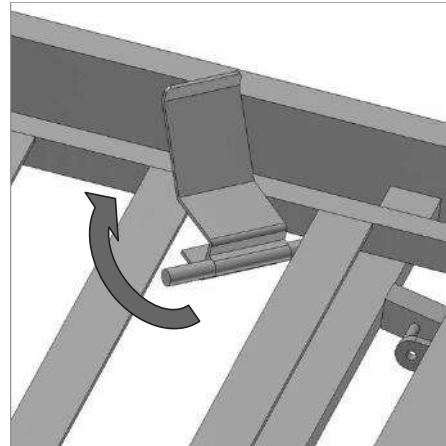
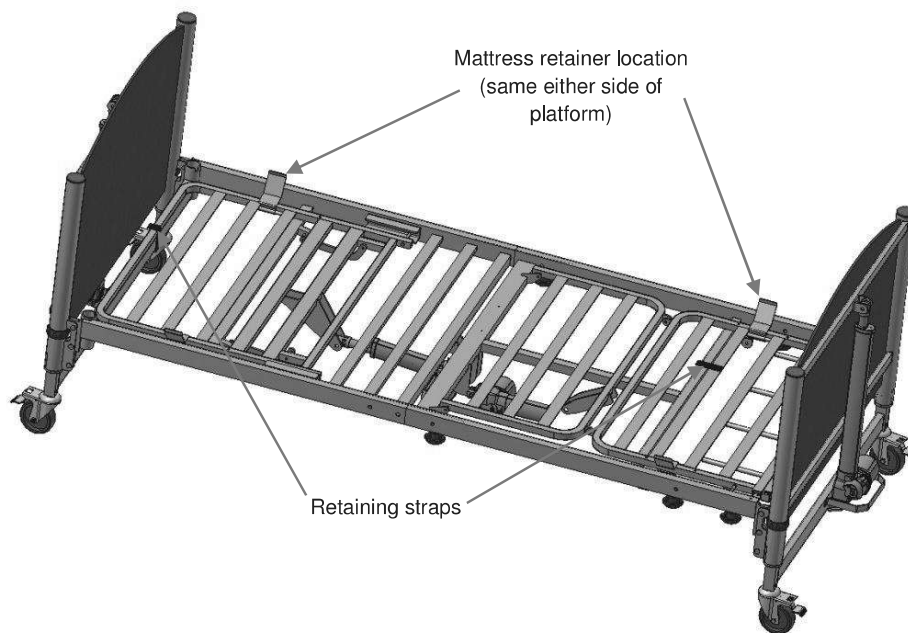

Figure 8: mattress retainer
Figure 9: Location of mattress retaining clips and retaining straps
18. Attach the 4 mattress retaining clips to the bed frame (*Figure 8*) at the locations shown (*Figure 9*).
19. Remove the retaining straps holding the moving parts of the frame to the bed ends at the locations shown (*Figure 9*).